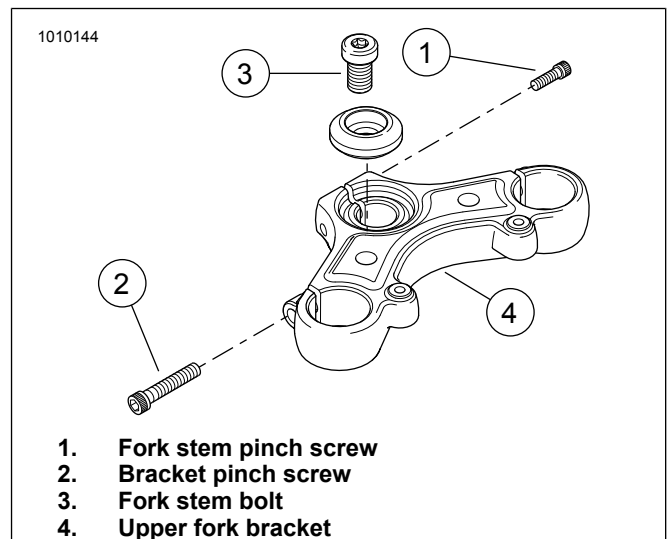

Figure 1. Upper fork bracket
1. See Figure 1. Loosen fork stem pinch screw (1).
2. Loosen upper bracket pinch screws (2).
3. Remove fork stem bolt (3).
4. Loosen upper bracket screws (2).
5. Remove upper fork bracket (4).
7. The center index mark (3) should align with the indicator on the clamp.
10. See Figure 1. Set the upper fork bracket in place.
11. Install fork stem bolt (3). Finger tighten at this time.
12. Install bracket pinch screws (2). Finger tighten at this time.